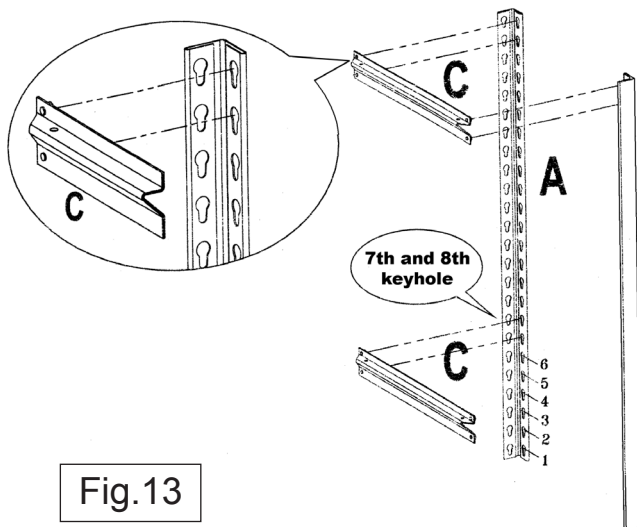

Fig.13
4.11 See Fig.13. Now start to build the second low level unit by making up two end frames as shown in Fig.13. One short 'Z' beam (C) should be fixed at the top of the angle posts and the other short 'Z' beam (C) should be fixed at the 7th and 8th keyholes up from the bottom of the angle posts as shown below. Ensure that each 'Z' beam is facing upwards. Tap the beam at either end, close to each angle post with a rubber mallet to ensure that the rivets are seated at the bottom of the keyhole slots.